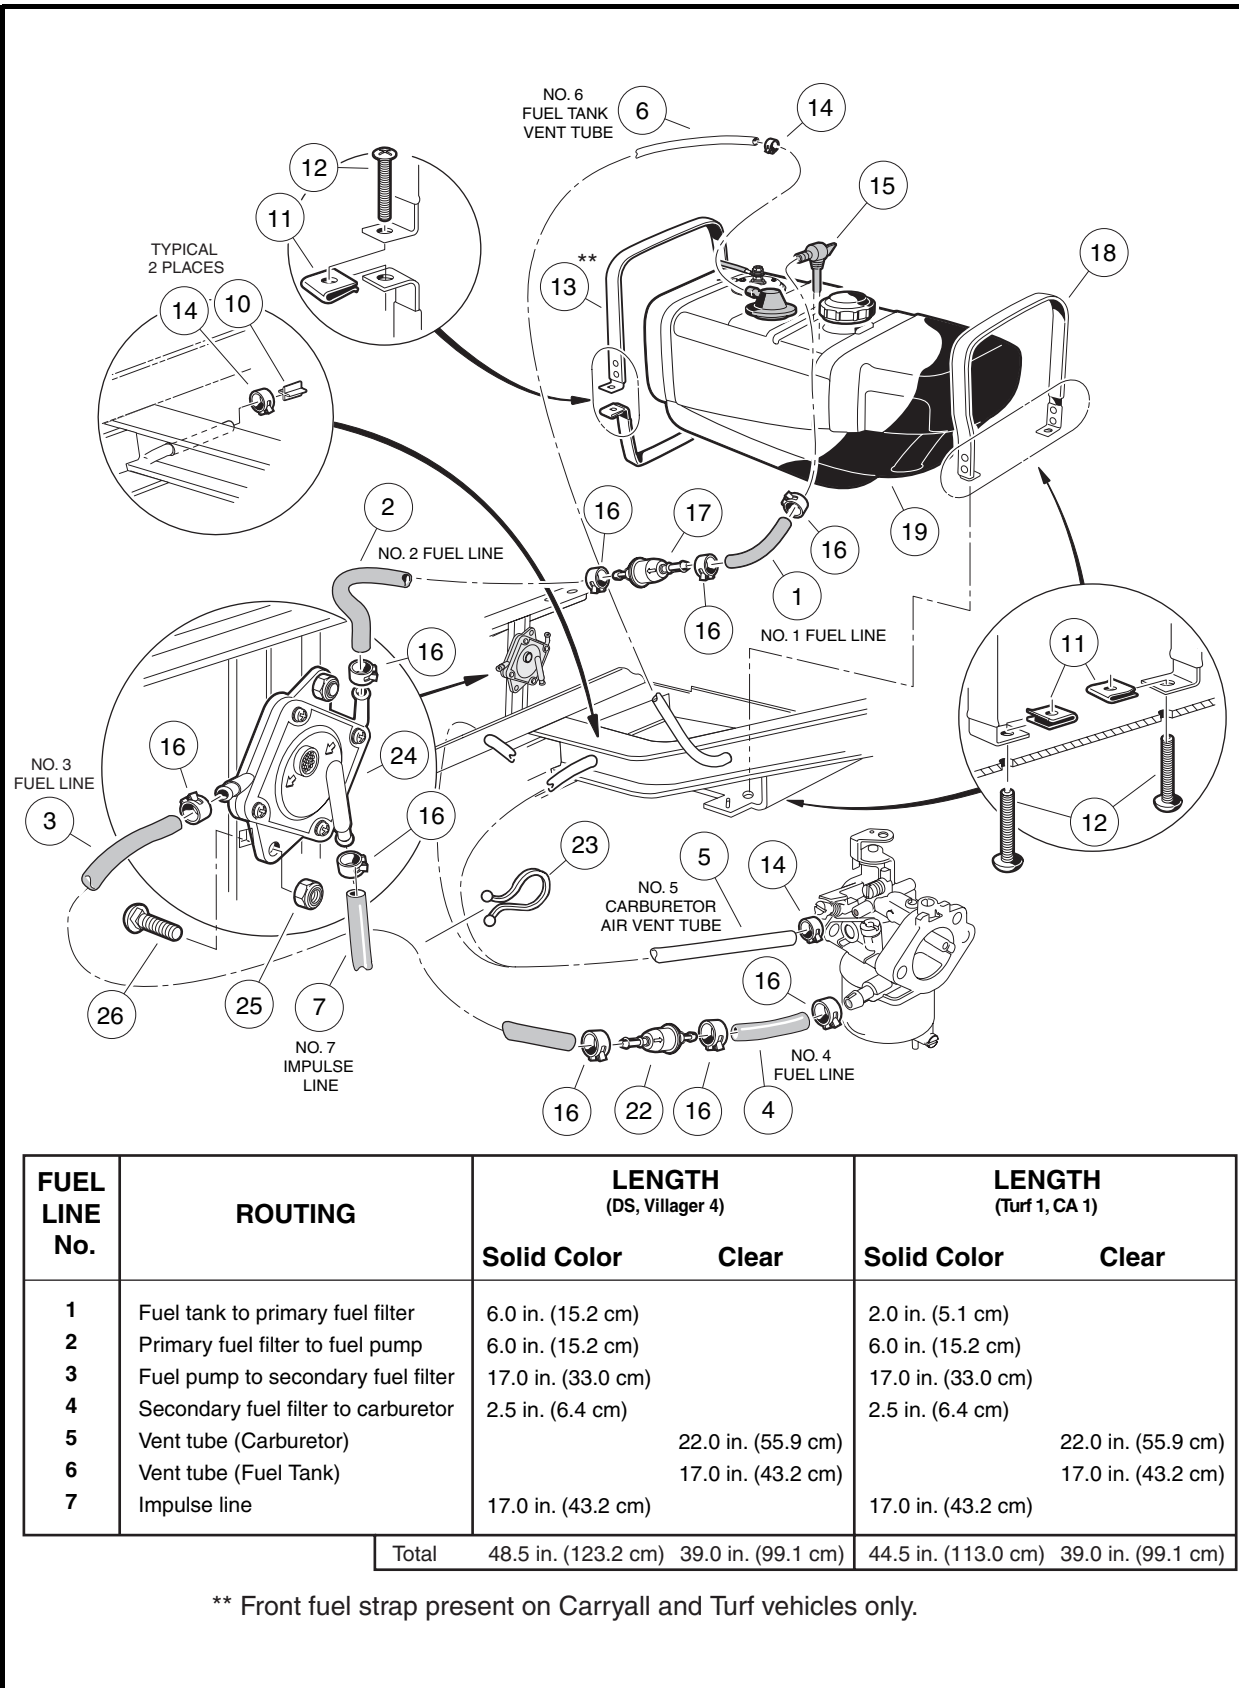
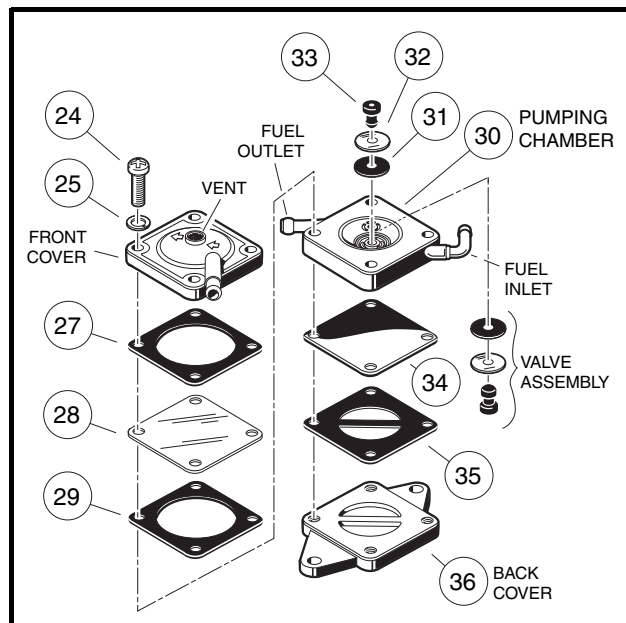
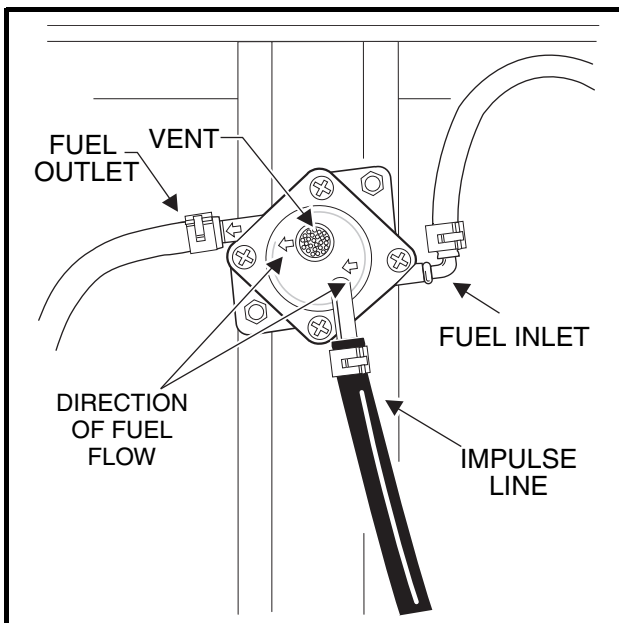

Figure 14-11 Fuel and Vent Lines
Figure 14-12 Fuel Pump
Figure 14-13 Fuel Pump Orientation
Fuel is supplied to the fuel pump and carburetor through flexible lines. Two in-line filters are installed between the fuel tank and the carburetor (**Figure 14-11, Page 14-18**). Fuel filters, fuel lines, and the fuel tank vent should be inspected periodically for leaks.
3. To prevent fuel drainage, turn the fuel shut-off valve (15) on the fuel tank (19) **(Figure 14-11, Page 14-18)** to the closed (OFF) position **(Figure 14-16, Page 14-26)**.
4. Remove the primary fuel filter (17) **(Figure 14-11, Page 14-18)**.
- 4.1. Remove the clamps (16) and fuel lines (1 and 2) from the filter and plug the fuel lines **(Figure 14-11, Page 14-18)**.
5. Remove the secondary filter (22) **(Figure 14-11, Page 14-18)**:
- 5.1. Remove the clamps (16) and fuel lines (3 and 4) from the filter and plug the fuel lines (3 and 4) **(Figure 14-11, Page 14-18)**.
1. Install the primary fuel filter (17) in the fuel line. Use new clamps (16) **(Figure 14-11, Page 14-18)**.
2. Install the secondary fuel filter (22) in the fuel line. Use new clamps (16).
4. Remove hardware attaching the fuel pump (24) and lift the fuel pump out of the engine compartment (**Figure 14-11, Page 14-18**).
5. Remove the clamp and impulse line (7) from fuel pump.
2. Remove four screws (24) and lock washers (25) from front of the fuel pump (**Figure 14-12, Page 14-20**).
4. Note the orientations of the impulse gasket (27), the diaphragm (28), and the gasket (29), then remove them from the pump.
5. If the impulse gasket (27) and the diaphragm (28) come off with the front cover, note their orientations and remove them (**Figure 14-12, Page 14-20**).
6. Remove the pumping chamber (30).
7. Remove the back cover (36), the fuel diaphragm (34), and gasket (35) (**Figure 14-12, Page 14-20**).
2. Inspect the valve assemblies (31, 32, and 33) and all gaskets and diaphragms for damage (**Figure 14-12, Page 14-20**).
3. If a valve assembly is damaged, the rubber retaining plug (33) and valve assembly must be replaced.
1. Install the fuel gasket (35) and diaphragm (34) on the back cover (36) (**Figure 14-12, Page 14-20**).
2. Install the valve assembly in the pumping chamber (30). **See following CAUTION.**
- If the valve assembly is not installed exactly as shown (**Figure 14-12, Page 14-20**), the impulse fuel pump will not operate properly.
3. Install the pumping chamber (30) on top of the fuel diaphragm (34). Be sure the fuel inlet and the fuel outlet align with the arrows on the front of the front cover (**Figure 14-12, Page 14-20**).
4. Install the gasket (29), clear impulse diaphragm (28), and the paper impulse gasket (27) to the pumping chamber (30).
5. Install the front cover and then the lock washers (25) and four screws (24) on the assembly (**Figure 14-12, Page 14-20**). Be sure the arrows on the front cover point from the fuel inlet to the fuel outlet (**Figure 14-13, Page 14-20**). Tighten the screws to 26 in-lb (3.0 N·m).
1. Connect to the fuel pump the fuel line (2) that comes from the primary fuel filter (17). Install a new clamp (16). Route the fuel lines as shown (**Figure 14-11, Page 14-18**).
NOTE: Be sure to connect the fuel line (2), that comes from the primary fuel filter (17), to the inlet nipple on the pump. Direction of fuel flow is indicated by the arrows on the fuel pump (**Figure 14-11, Page 14-18**). See also **Figure 14-13, Page 14-20**.
2. Connect to the output side of the fuel pump, the fuel line (3) that goes to the secondary fuel filter (**Figure 14-11, Page 14-18**).
3. Connect the impulse line (7) to the bottom nipple on the fuel pump. Use a new clamp (16).
- For DS or Villager 4 vehicles, install the fuel pump on the frame and tighten the mounting bolts (26) and lock nuts (25) to 60 in-lb (6.8 N·m) (**Figure 14-11, Page 14-18**).
10. Remove the vent tube (6) and fuel line (1) from the fuel tank (**Figure 14-11, Page 14-18**)
11. Loosen the straps (13 and 18) by removing the screws (12) from the speed nuts (11).